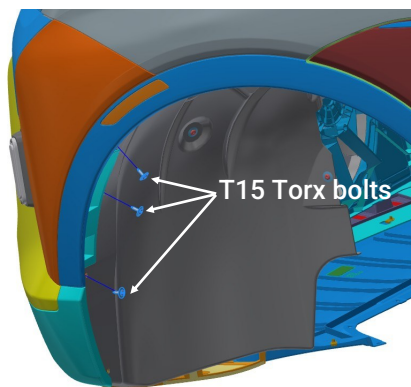

Figure 1
2. Remove the (3) T15 Torx bolts from the wheelhouse liner as seen in Figure 1